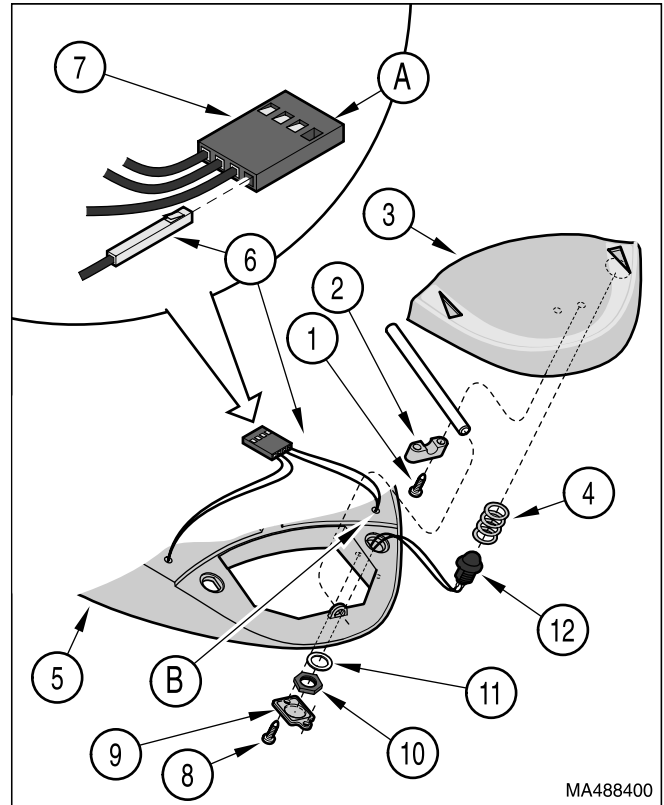

Figure 4-27. Foot Control *Foot Pedal* Switch Removal / Installation
- (1) Refer to para 4.20A (Removal - steps 1 thru 5).
- (2) Remove four screws (1, Figure 4-27), two pedal caps (2), foot control pedal (3) and two springs (4) from foot control base (5).
- (3) Tag switch lead (6) with position; then using a small screwdriver or similar device, gently depress the silver tab of the switch lead (6) thru the hole (A) in the wire harness connector (7) and pull the switch lead out of the connector. Repeat this procedure for the second switch lead.
- (4) Remove two screws (8) and switch cover (9).
- (5) Pull two switch leads (6) thru hole (B).
- (6) Remove nut (10), lockwasher (11) and switch (12) from foot control base (5).